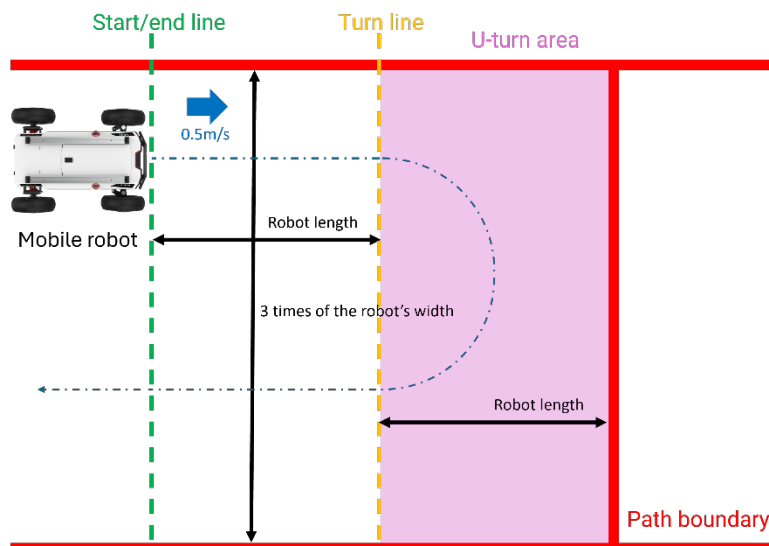

Figure 1. Test area for UGV.
- Test site: the test shall be conducted on a flat (gradient <1%), open surface free of major irregularities or obstacles. The test site is larger than or equal to 2 times the length of the robot and 3 times the width of the robot. A schematic diagram of the test scenario is shown in Figure 1.